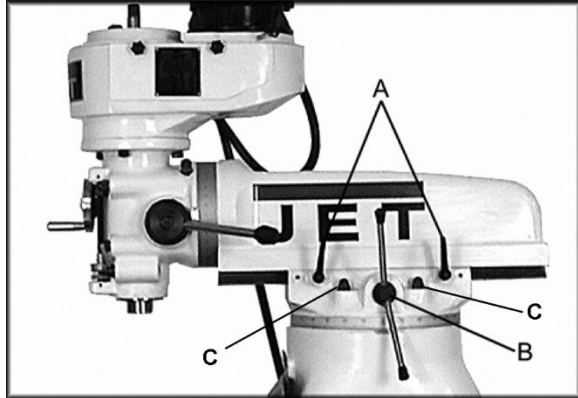

Figure 12: Ram positioning
1. Loosen two handles (A, Figure 12) that lock ram to its ways.
2. Turn handle (B, Figure 12) to move ram on its ways.
3. When desired position is reached, tighten handles (A) securely.
1. Loosen four turret lock bolts (C, Figure 12). One-half (1/2) turn should be sufficient to allow turret to move. **Note:** Use gentle hand pressure to avoid rapid movement.
3. Tighten four turret lock bolts (C, Figure 12).